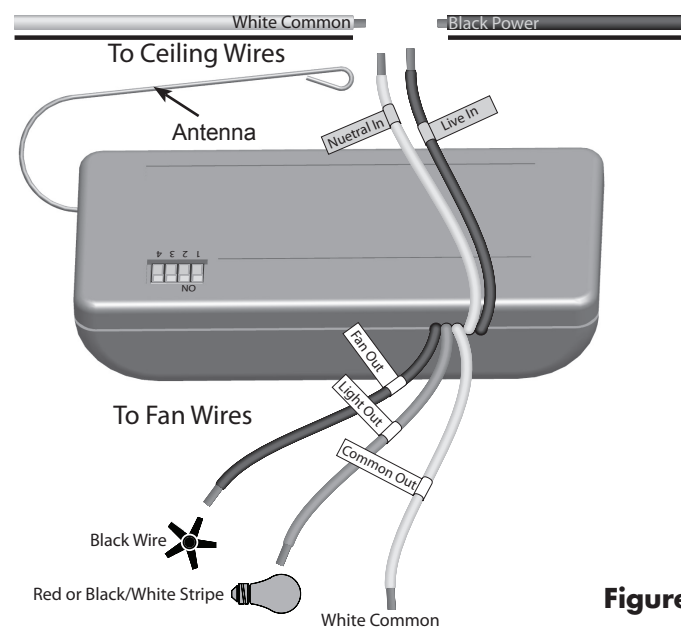
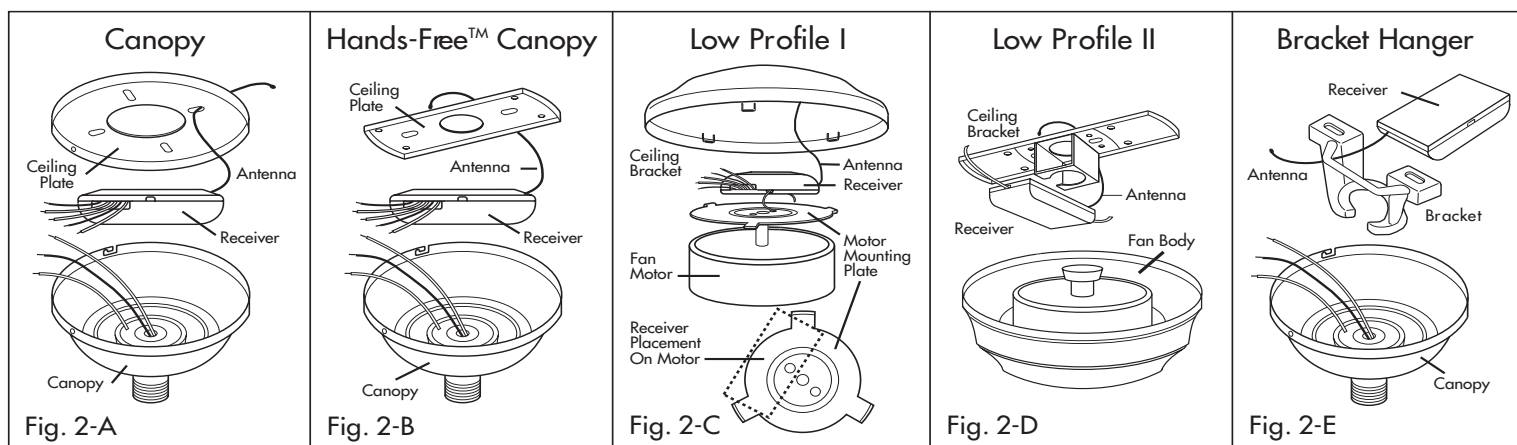

Figure 3.
Figure 2
Canopy Hanger (Fig. 2-A): Place receiver in canopy. Connect wiring as shown in Figure 3. Extend antenna through one of the ceiling plate openings (approximately 3-6").
Hunter Hands-Free™ Canopy (Fig. 2-B): Connect wiring as shown in Figure 3. Place receiver inside mounting bracket. (On some Wisper Wind™ models, the receiver must rest across the bottom of the mounting bracket.) Extend antenna above the ceiling mounting bracket (approximately 3-6").
Low Profile Style I (Fig. 2-C): Attach the receiver to the motor mounting plate with 12" cable ties (not included). Cut off any extra cable tie. Connect wiring as shown in Figure 3. Extend antenna through one of the ceiling plate openings (approximately 3-6").
Low Profile Style II (Fig. 2-D): Attach the receiver to the ceiling bracket with 12" cable ties (not included). Trim off the excess cable tie length. Connect wiring as shown in Figure 3. Extend antenna above the ceiling mounting bracket (approximately 3-6").
Bracket Hanger (Fig. 2-E): Starting with the antenna wire, slide receiver inside mounting bracket. If a ground wire mounting screw prevents the receiver from sliding into the bracket, move ground wire and screw to
an unused hole at the top of the bracket or secure with a canopy mounting screw. The bracket must remain properly grounded. Connect wiring as shown in Figure 3. Extend antenna above the receiver (approximately 3-6").
Cable Tie Routing for Low Profile Fans (Figs. 2-C, 2-D): Insert cable tie through openings as shown. DO NOT insert the cable tie through the inside of the receiver. The cable tie can be placed across the length or width of the receiver to best match your fan installation type.
3. Determine your ceiling fan mounting type (Figure 2). Most installations will be one of these five types: Canopy Hanger, Hunter Hands-Free™ Canopy, Low Profile Styles I or II, or Bracket Hanger.
4. Install the ceiling fan according to its instructions, up to the point of making the electrical connections. Connect receiver to ceiling fan according to the mounting type as instructed in Figure 2.
5. If the fan is already installed, reverse the installation procedure to the point of disconnecting the fan wiring. Connect receiver to ceiling fan according to the mounting type as instructed in Figure 2.
6. Use the 2 large wire nuts supplied to connect the receiver and house wiring, then use the 3 small wire connectors supplied to connect the receiver and ceiling fan wiring. Refer to the Wiring Diagram in Figure 3.
7. Be sure the antenna is positioned securely, so it does not interfere with the ceiling fan motor. Refer to Figure 2. Do not modify or damage the antenna wire, as control performance may be reduced. After securing the receiver, antenna, and wiring, finish hanging the ceiling fan according to its instructions.
Suspensión De Campana (Fig. 2-A): Coloque el receptor en la campana. Conecte los alambres como se muestra en la Figura 3. Extienda la antena a través de una de las aberturas de la placa de techo (aproximadamente entre 3" y 6").
Campana Hunter Hands-Free™ (Fig. 2-B): Conecte los alambres como se muestra en la Figura 3. Coloque el receptor dentro de un soporte de montaje. Extienda la antena por encima del soporte de montaje de techo (aproximadamente entre 3" y 6").
Perfil Bajo Estilo I (Fig. 2-C): Conecte el receptor a la placa de montaje del motor con bridas de 12" (no incluidos). Corte toda brida excedente. Conecte los alambres como se muestra en la Figura 3. Extienda la antena a través de una de las aberturas de la placa de techo (aproximadamente entre 3" y 6").
Perfil Bajo Estilo II (Fig. 2-D): Conecte el receptor al soporte de techo con bridas de 12" (no incluidos). Recorte el exceso de longitud de bridas. Conecte los alambres como se muestra en la Figura 3. Extienda la antena por encima del soporte de montaje de techo (aproximadamente entre 3" y 6").
Suspensión De Soporte (Fig. 2-E): Comenzando con el alambre de la antena, deslice el receptor dentro del soporte de montaje. Si el tornillo de montaje de un alambre de tierra evita que el receptor se deslice en el soporte, mueva el alambre de tierra y atornillelo en un agujero no utilizado en la parte superior del soporte o asegúrelo con un tornillo de montaje de campana. El soporte debe permanecer puesto a tierra adecuadamente. Conecte los alambres como se muestra en la Figura 3. Extienda la antena encima del receptor (aproximadamente entre 5" y 8").
Colocación De Sujetacables Para Ventiladores De Perfil Bajo (Fig. 2-C, 2-D): Introduzca el sujetacables a través de las aberturas, tal como se